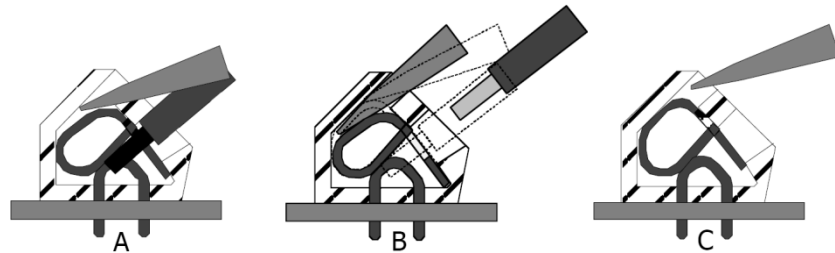

Figure 62. Removing connections in screwless spring-loaded terminals
- Place a size 1 screwdriver in the upper opening and insert it turning slightly upwards (figure 62 A).
- Then draw the wire from the lower opening (figure 62 B).
- Withdraw the screwdriver (figure 62 C).